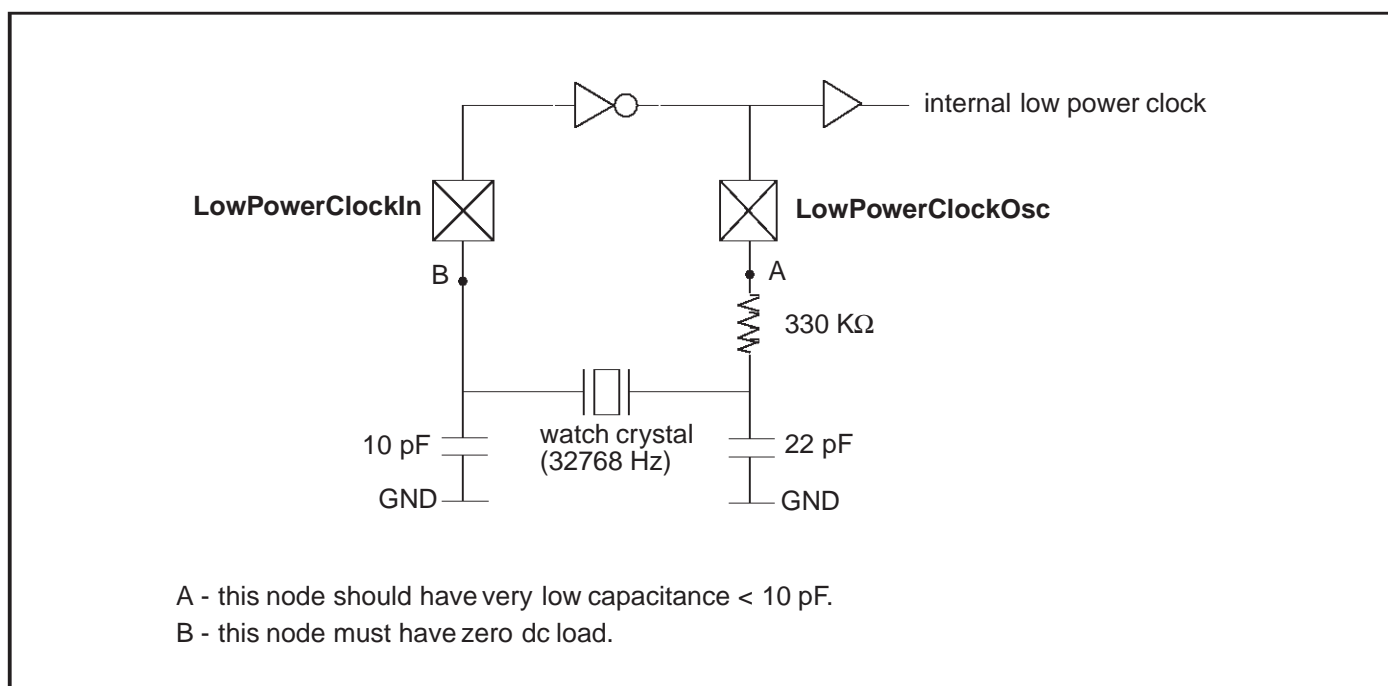

Figure 13.1 Watch crystal clocking source
- Watch crystal, as in Figure 13.1.